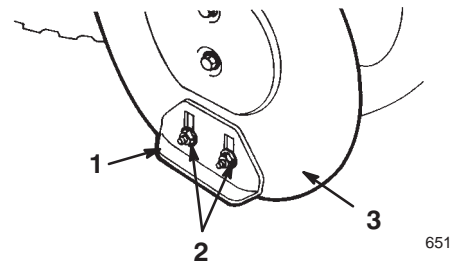

Figure 20
- Loosen the four flange nuts that secure both skids to the auger side plates (Fig. 20) until the skids slide up and down easily.
- Tighten the four flange nuts that secure both skids to the auger side plates (Fig. 20).